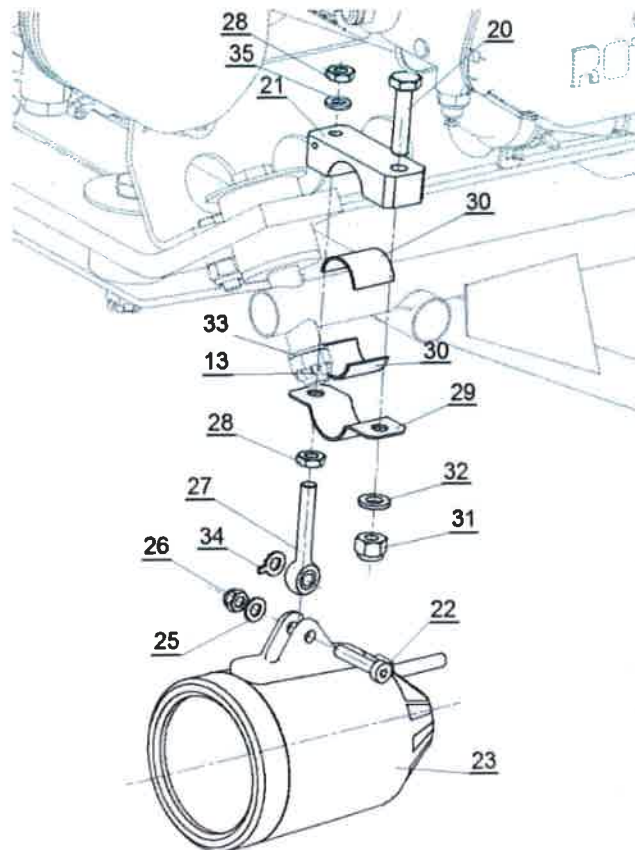

Figure 2 - Mounting of the New landing light Trail Tech D112-SX
- 1.10 Install the New landing light (23) with the new holder (21, 29, 30) supplied by the Czech Aircraft Group using connecting parts (20, 31, 32, 22, 25, 26, 27, 28, 35), see Figure 2.